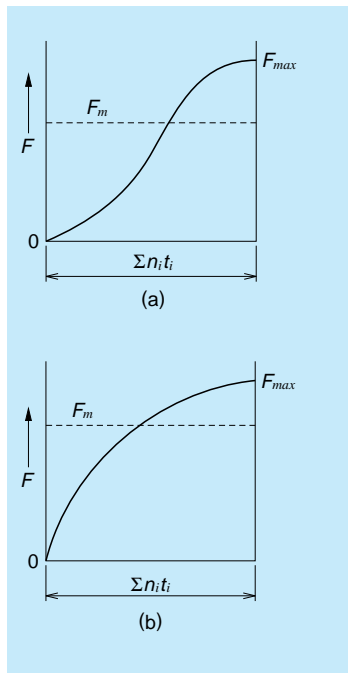

Fig. II-5-3 Load changes in sinusoidal (Fig. II-5-3)
3. When rotational speed is constant, and the load changes in sinusoidal (Fig. II-5-3)